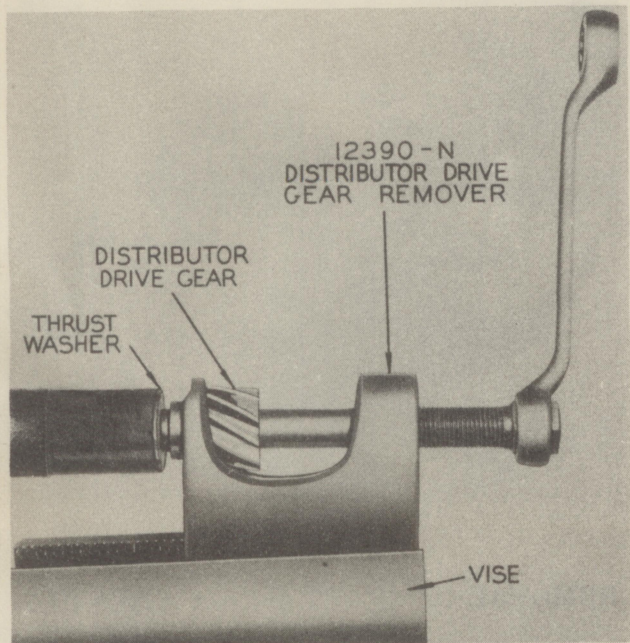

Fig. 5
2. Remove the drive gear and thrust washer from the distributor shaft. Use of a Distributor Drive Gear Remover (Tool No. 12390-N) is recommended (Fig. 5). The shaft and cam assembly is now free to be removed.